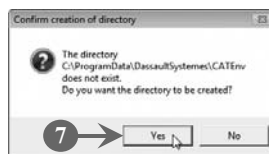

FIGURE 1.7
The **Confirm creation of directory** message box opens (Figure 1.7).
7. Click the **Yes** button to close the **Confirm creation of directory** message box, as shown in Figure 1.7: